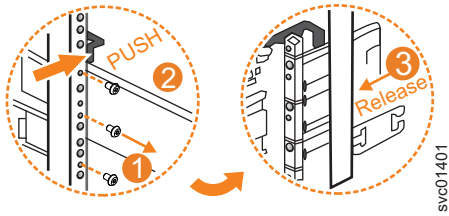

Figure 130. Remove the rail assembly from the rear frame bracket
3. Remove the two screws that attach the inner rail section to the rear bracket, as shown in Figure 130 on page 136.
4. Pull the rail forward, away from the rear bracket, as shown in Figure 130.